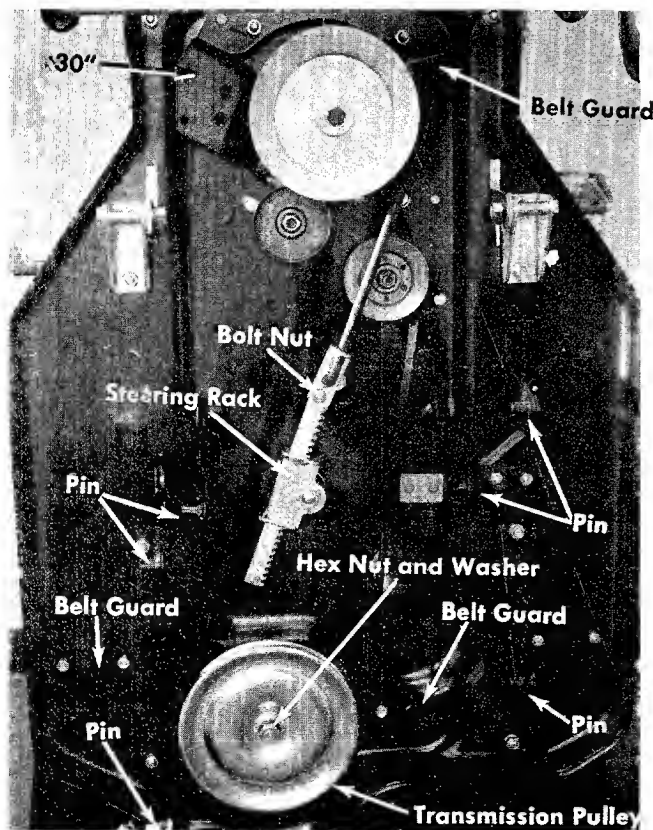

FIGURE 31. BOTTOM VIEW
Step 9. Removing the transmission Belt. See figure 31.
- b. Remove the transmission pulley by removing the hex nut and washer. See figure 31.